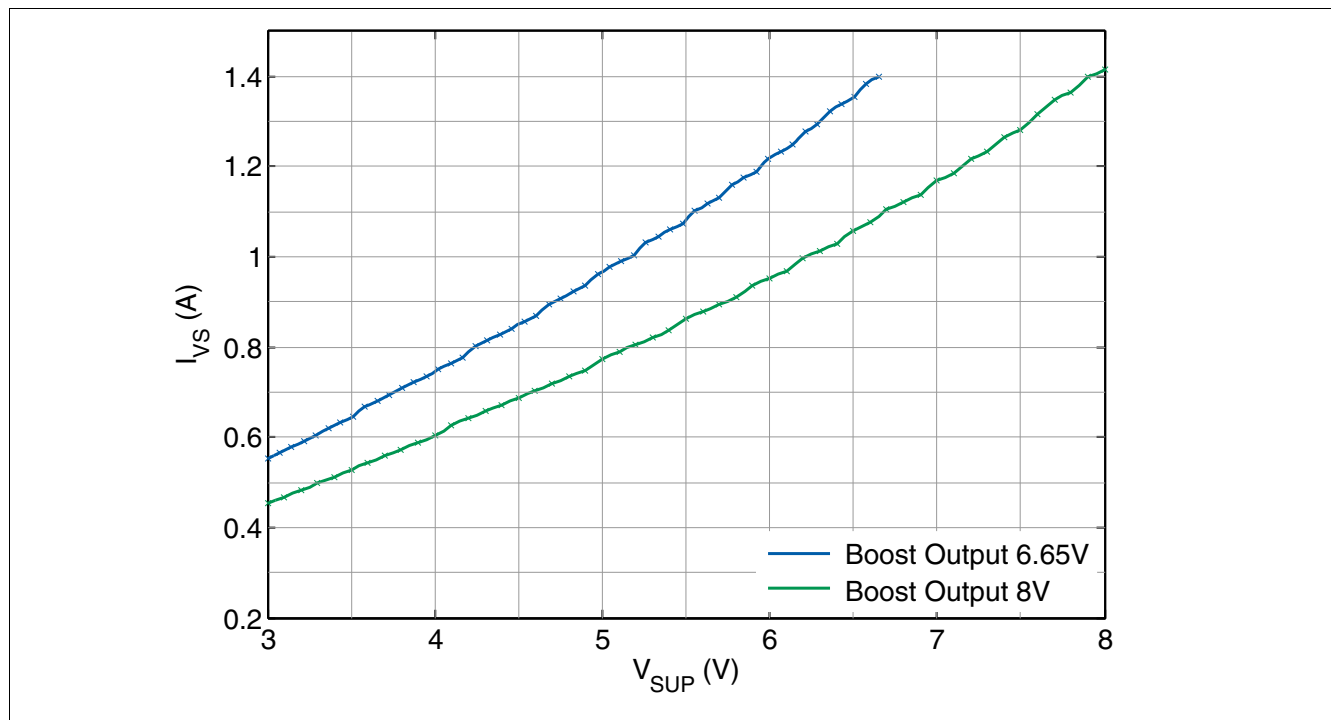

Figure 13 Maximum DCDC Boost current capability versus V_{SUP} (TLE9271..3QX version).
3) Values verified in characterization with Boost converter specified in Chapter 15.1. Not subject to production test; specified by design. Refer to Figure 13 for additional information.
Note: Figure 13 is based on simulation results (specified by design), with Boost converter external components specified in Chapter 15.1.